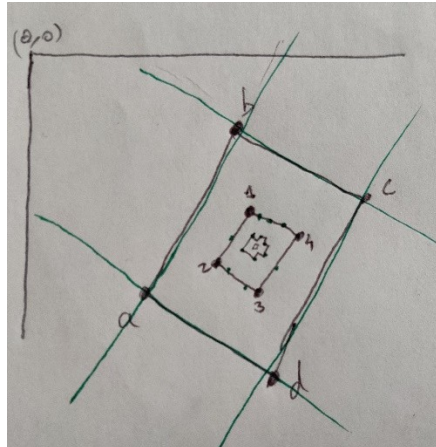

Figure 8
- o Using the line equations, we can select all the points that lie inside the paper edges, as shown in Figure 8. This will ensure that the next points that we select are not on the edge of the paper but are part of the tag.